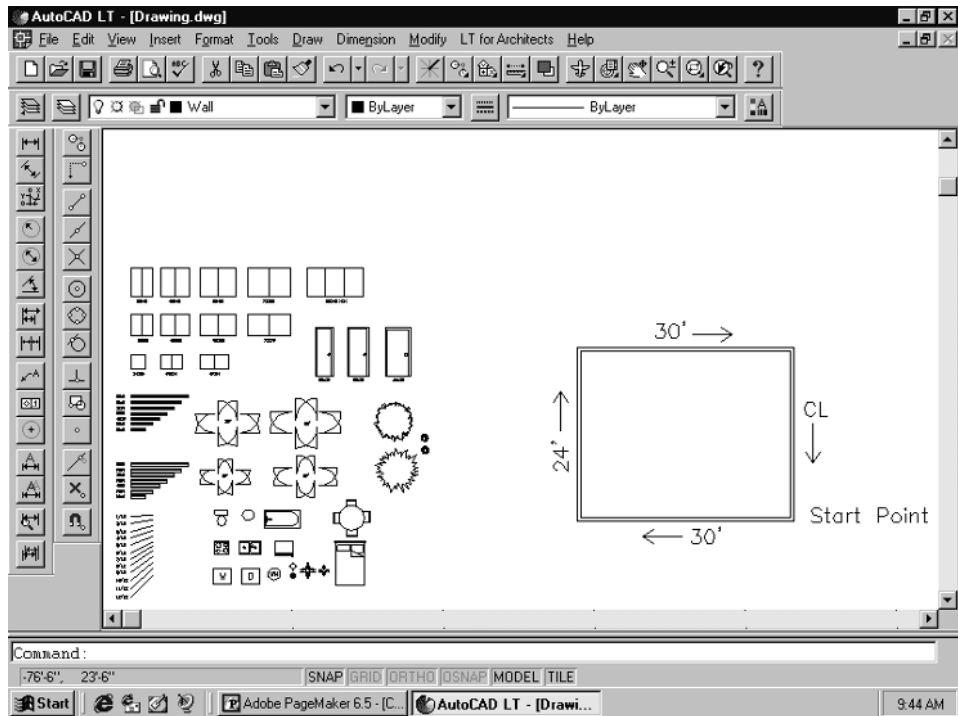

Figure 2-6
3. With the first segment of wall drawn the Double Line command should still be active, so pull your cursor up, type **24'**, and **Enter**. Your second wall segment will be drawn. Pull right, type **30'**, and **Enter** for the third wall segment. Type **CL** and **Enter** to close back to the start point. You now should have a 30'x24' rectangular exterior footprint of a simple floor plan, similar to the illustration in Figure 2-6.